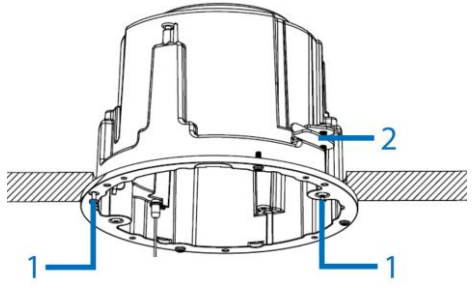

Figure 5
- Insert the Recessed camera housing into the hole in the ceiling and fasten the two screws (1) (Figure 5) with a screwdriver so that both locking springs paddles (2) (Figure 5) can slide out to secure the camera housing into the ceiling.
- Tighten the two screws (1) (Figure 5) on the camera housing with a screwdriver to ensure IP66 support when the camera is used outdoors.